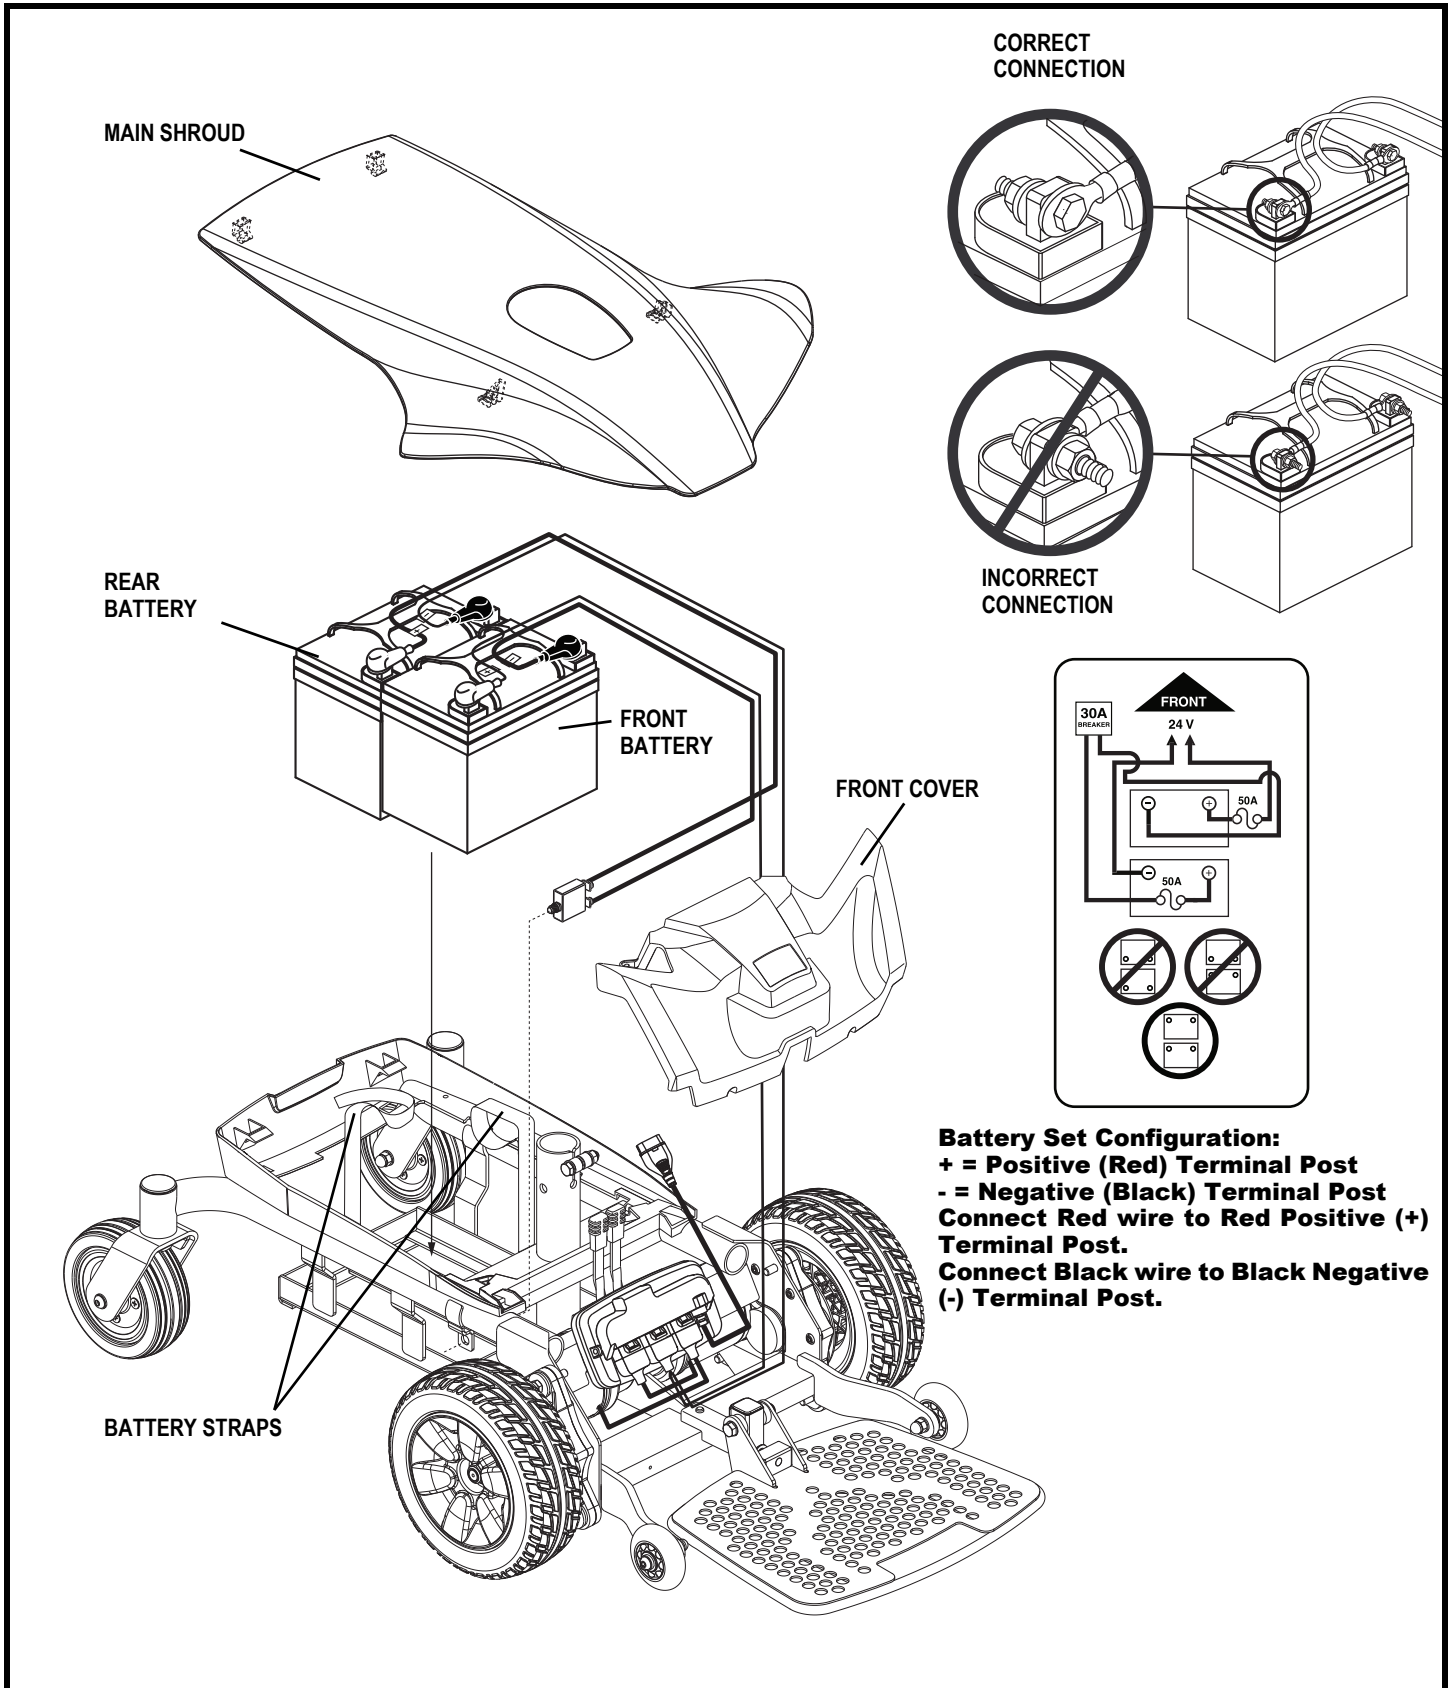

Figure 20. Battery Installation for Jazzy Elite ES and Jazzy Elite ES-1 (Seat Removed for Clarity)
4. Remove the main shroud by lifting the rear of the main shroud until it disconnects from the body shroud. Once disconnected from the body shroud, slide the main shroud forward until the tabs are free from the body shroud. Lift the shroud up and over the seat post. **See figure 20 or 21.**
5. Unfasten the battery strap. **See figure 20 or 21.**
6. Disconnect the battery cables from the battery terminals of each battery. **See figure 20 or 21.**
8. Install new batteries into the battery tray. Make sure the terminals of each battery are facing the front of the power chair. **See figure 20 or 21.**
9. Connect the front battery cable to the front battery terminals according to the battery wiring diagram. Make sure that the battery terminal hardware is facing the correct direction. **See figure 20 or 21.**
10. Connect the rear battery cable to the rear battery terminals according to the battery wiring diagram. Make sure that the battery terminal hardware is facing the correct direction. **See figure 20 or 21.**